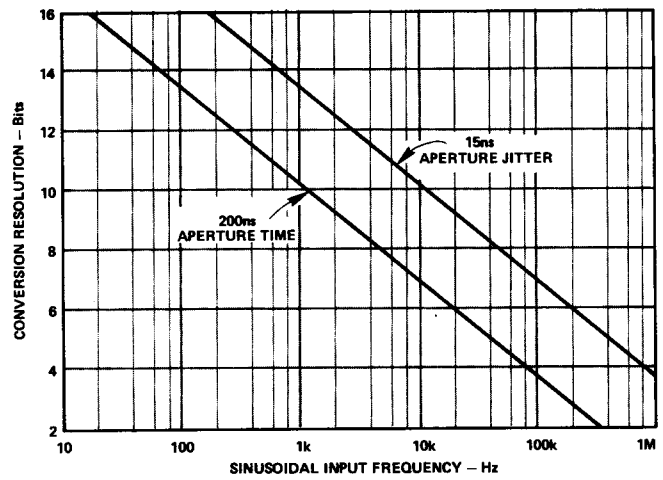

Figure 5. Maximum Frequency of Input Signal for 1/2 LSB Sampling Accuracy
**Aperture Time** is the time required after the "hold" command until the switch is fully open and produces a delay in the effective sample timing. Figure 5 is a plot giving the maximum frequency at which the AD582 can sample an input with a given accuracy (lower curve).
**Aperture Jitter** is the uncertainty in Aperture Time. If the Aperture Time is "tuned out" by advancing the sample-to-hold command 200ns with respect to the input signal, the Aperture Jitter now determines the maximum sampling frequency (upper curve of Figure 5).